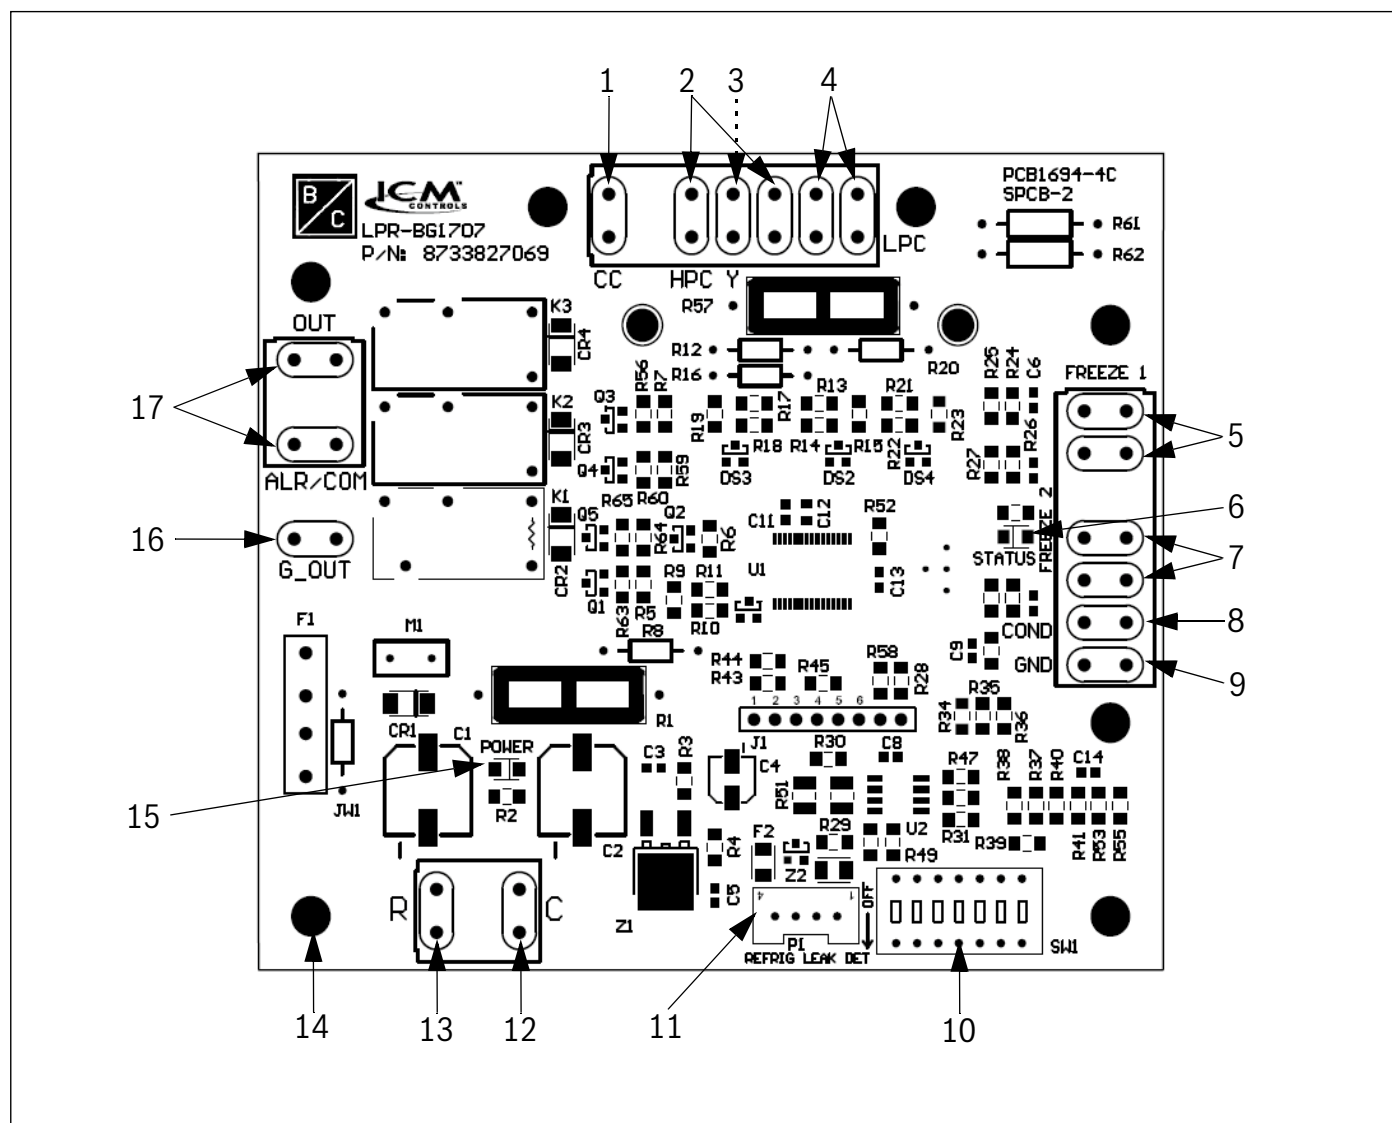
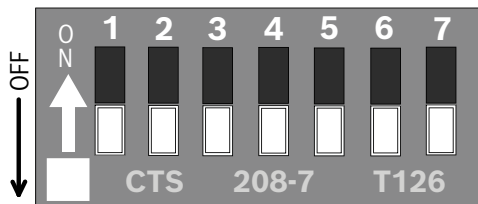

Figure 8 UPM Controller Board
Figure 11 UPM Settings DIP Switch (SW1)
- The source side freeze protection sensor (FREEZE 1), monitors refrigerant temperature between the source water coil and thermal expansion valve. If temperature drops below or remains at freeze limit trip for 120 seconds, the controller will shut down the compressor and enter into a soft-lockout condition. The default freeze limit trip is 25°F; however, this can be changed by flipping DIP switch SW1. (Refer to Figure 8, item [10].)
- **TEST DIP SWITCH:** The DIP switch position "4" controls the Test function. When it is set to "ON," it will reduce all time delays settings to 10 seconds during troubleshooting or verification of unit operation. (Refer to Figure 8, item [10].), (Refer to Figure 11.)(See Table 13)
- **LOW-PRESSURE BYPASS TIMER:** If the compressor is running and the low-pressure switch opens, the controller will keep the compressor ON for 120 seconds. After two minutes if the low-pressure switch remains open, the controllers will shut down the compressor and enter a soft lockout. The compressor will not be energized until the low-pressure switch closes and the anti-short cycle time delay expires. If the low-pressure switch opens two or four times in one hour, the unit will enter a hard lockout. In order to exit a hard lockout, power to the unit would need to be reset. The reset signal is either a Y or R signal depending on if DIP switch position "2" is set to ON or OFF. (Refer to Figure 11.)(See Table 13.) If it set to ON, the board must be manually powered OFF and powered back ON to exit the hard lock out.
- **MALFUNCTION OUTPUT:** Alarm output is normally open (NO) dry contact. If pulse is selected the alarm output will be pulsed. The fault output will depend on the DIP switch setting for "ALARM." (Refer to Figure 11.)(See Table 13.) If DIP switch position "3" is set to "ON," a constant signal will be produced to indicate a fault has occurred and the unit requires inspection to determine the type of fault. If it is set to "OFF," a pulse signal is produced and a fault code is detected by a remote device indicating the fault. (For blink code explanation, see Table 14.) The remote device must have a malfunction detection capability when the UPM board is set to "PULSE."
- FREEZE SENSOR:** The default setting for the freeze limit trip is 25°F (FREEZE 1); however, this can be changed to 15°F by flipping the DIP switch position “5” (Refer to Figure 8, item [10]) (Refer to Figure 11), freeze limit trip should only be changed to 15°F when a closed loop system with appropriate antifreeze mixture is used. **Since Freeze Sensor 2 is dedicated to monitoring the load side coil, it is recommended to leave the factory default setting on the DIP switch.** The UPM controller will constantly monitor the refrigerant temperature with the sensor (FREEZE 1) mounted between the thermal expansion valve and the source water coil. If the temperature drops below or remains at the freeze-limit trip for 120 seconds, the controller will shut the compressor down and enter into a soft-lockout condition. Both the status LED and the alarm contact will be active. The status LED will be active, blinking the fault code. The LED will flash (three times) the code associated with this alarm condition. If this alarm occurs two times (or four if DIP switch position “1” is set to “ON”) within an hour, the UPM controller will enter into a hard-lockout condition. It will constantly monitor the refrigerant temperature with the sensor (FREEZE 2) mounted between the thermal expansion valve and load coil. If the temperature drops below or remains at the freeze limit trip for 120 seconds, the controller will shut the compressor down and enter into a soft-lockout condition. Both the status LED and the alarm contact will be active. The status LED will be active, blinking the fault code. The LED will flash six times the code associated with this alarm condition. If this alarm occurs two times (or four times if DIP switch position “1” is set to “ON”) (Refer to Figure 11)(See Table 13) within an hour, the controller will enter into a hard-lockout condition.
- INTELLIGENT RESET:** If a fault condition is initiated, the five-minute delay on break time period is initiated and the unit will restart after these delays expire. During this period the fault LED will indicate the cause of the fault. If the fault condition still exists or occurs two or four times (depending if the Lockout DIP switch position “1” is set to “OFF” or “ON”) (Refer to Figure 11)(See Table 13) before 60 minutes, the unit will go into a hard lockout and requires a manual lockout reset.
- To clear a hard lockout when the DIP switch position “2” is set to “OFF” (Y), power can be cycled OFF then back ON either at the unit’s thermostat or at the circuit breaker.
- To clear a hard lockout when the DIP switch position “2” is set to “ON” (R), power must be cycled OFF then back ON at the circuit breaker (not at the thermostat).
(Refer to Figure 11.) (See Table 13.)